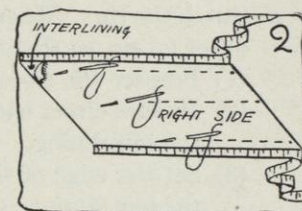

FIG. 2.
- c.* Baste the two materials together at the long edges and once through the center, half of the way between these two bastings (see Figure 2).
- d.* Measure along the length of the bias on both edges to be sure that it measures exactly the same as the headsize measurement written down in Section 1 *b* (page 180), see Figure 2.